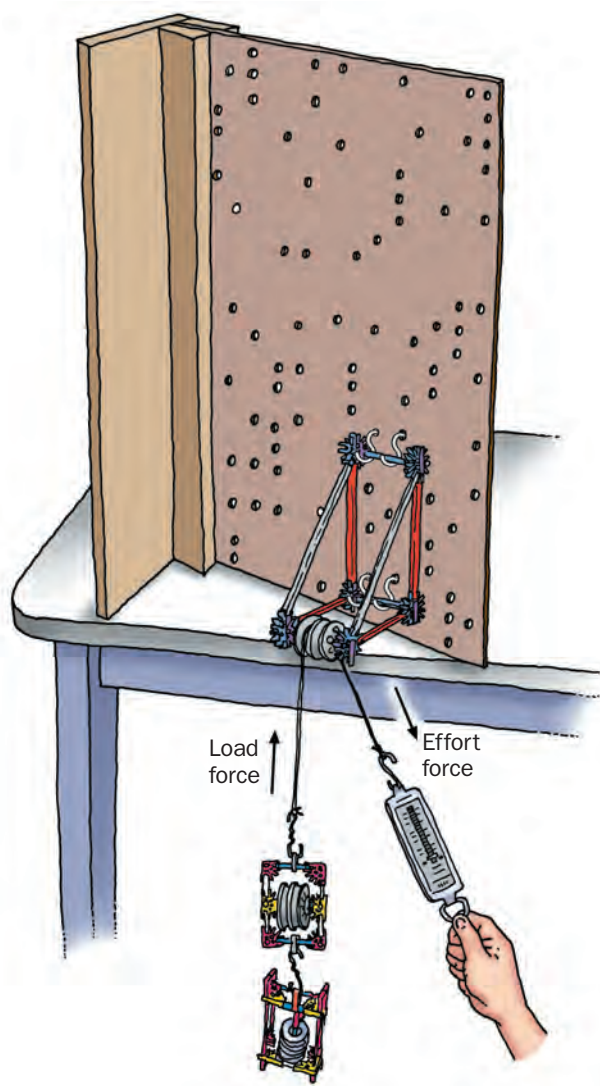

Figure 12.4 Raising the movable-pulley-and-sled combination using a single fixed pulley
4. Set up a single fixed pulley with the fixed pulley assembly attached to the pegboard, as shown in Figure 12.4. Use enough string so the movable-pulley-and-sled combination rests on the floor when the string is over the pulley.
- 5.** Raise the movable-pulley-and-sled combination at a steady speed to a height of 0.10 m (10 cm) above the floor (see Figure 12.4). Work as a team to measure and record the following on your student sheet: